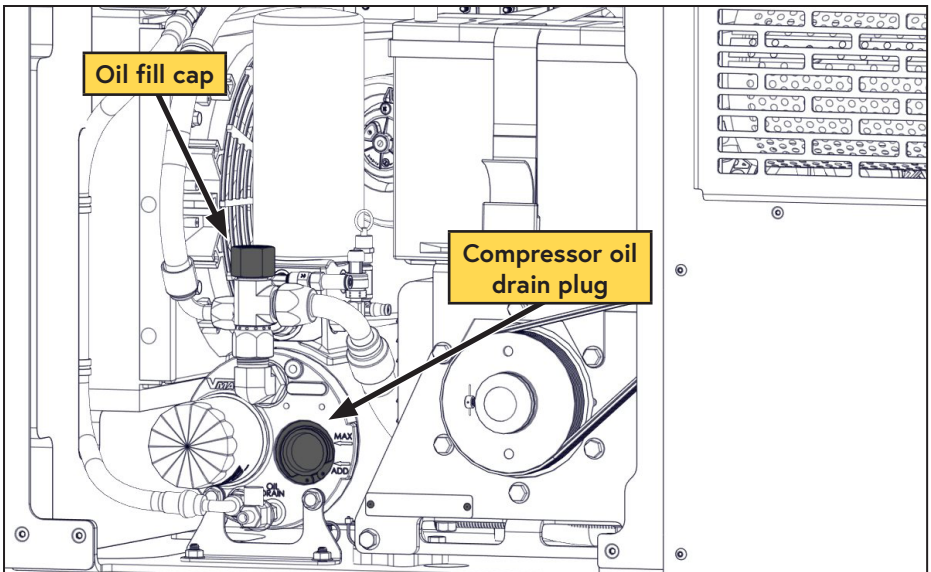

Figure 20 — Inspecting the compressor oil
- Remove the fill cap (Figure 20).